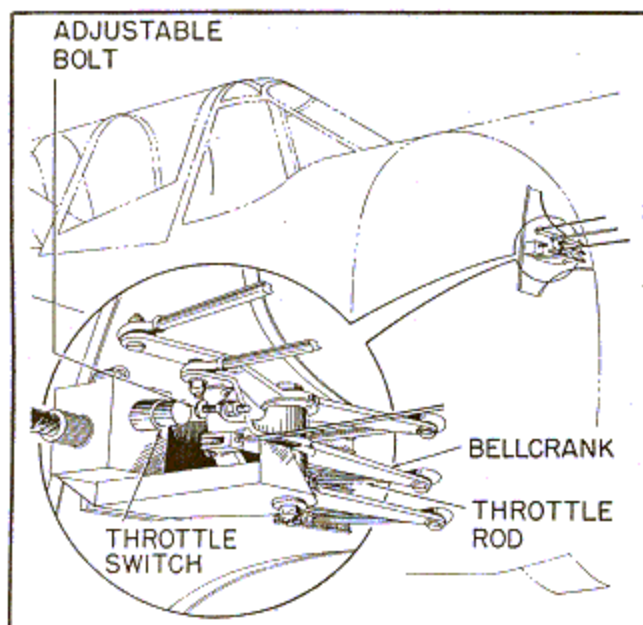

Figure 135—Throttle Warning Light Switch
3. The throttle switch normally open, is located on the forward left side of the firewall and is actuated by a bellcrank connected to the throttle control rod. (See figure 135.)